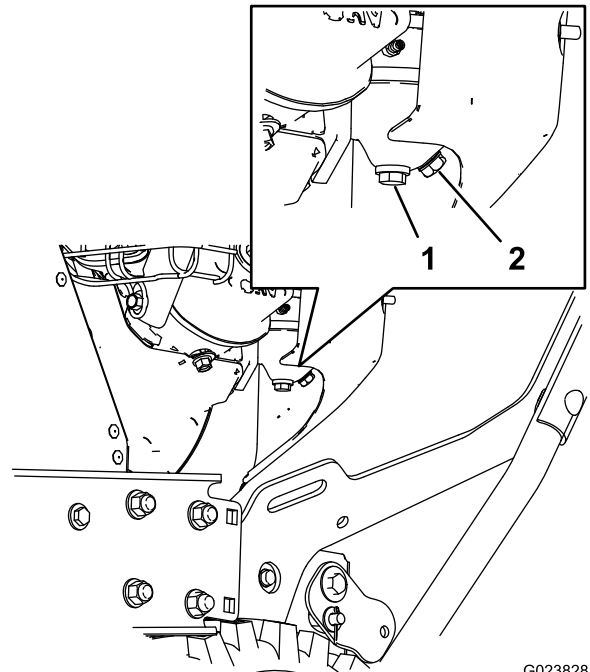

Figure 28
1. Locate the drain bolt that is in the side port of the carburetor bowl (Figure 28).